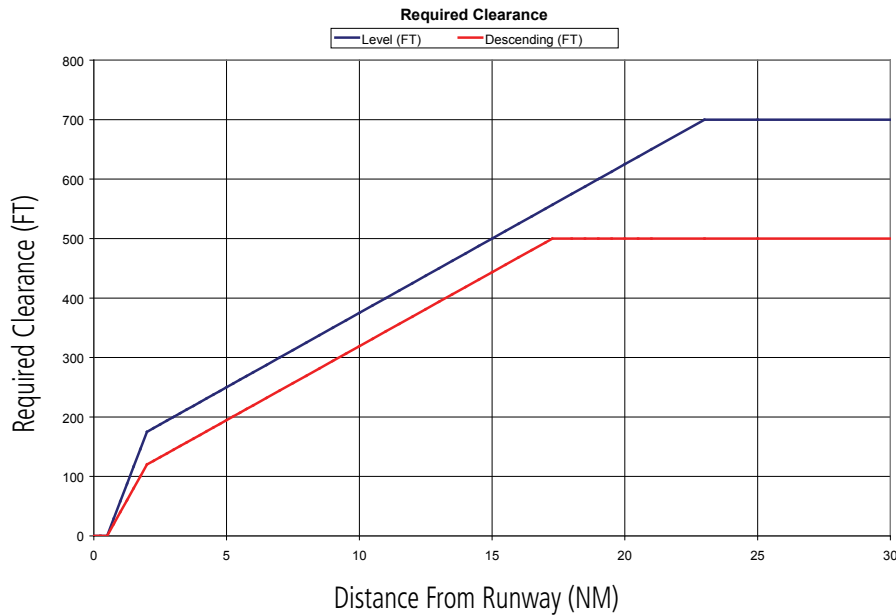

Figure 6-142 FLTA Alert Minimum Terrain and Obstacle Clearance Values
**Reduced Required Terrain Clearance (RTC)** and **Reduced Required Obstacle Clearance (ROC)** alerts are issued when the aircraft flight path is above terrain, yet is projected to come within the minimum clearance values in Figure 6-142. When an RTC alert is issued, a potential impact point is displayed on the Terrain-SVS Page.
**Imminent Terrain Impact (ITI)** and **Imminent Obstacle Impact (IOI)** alerts are issued when the aircraft is below the elevation of a terrain or obstacle cell in the aircraft’s projected path. ITI and IOI alerts are accompanied by a potential impact point displayed on the Terrain-SVS Page. The alert is annunciated when the projected vertical flight path is calculated to come within minimum clearance altitudes in Figure 6-142.